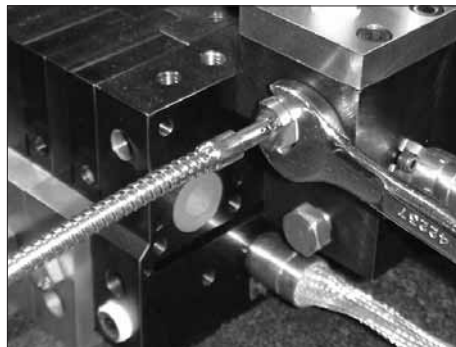

Figure 7-36 Installing a pressure transducer on the filter block (miniature transducer shown)
9. See Figure 7-36. If applicable, use a $\frac{5}{8}$ -in. wrench to install the pressure transducers until they are tight.